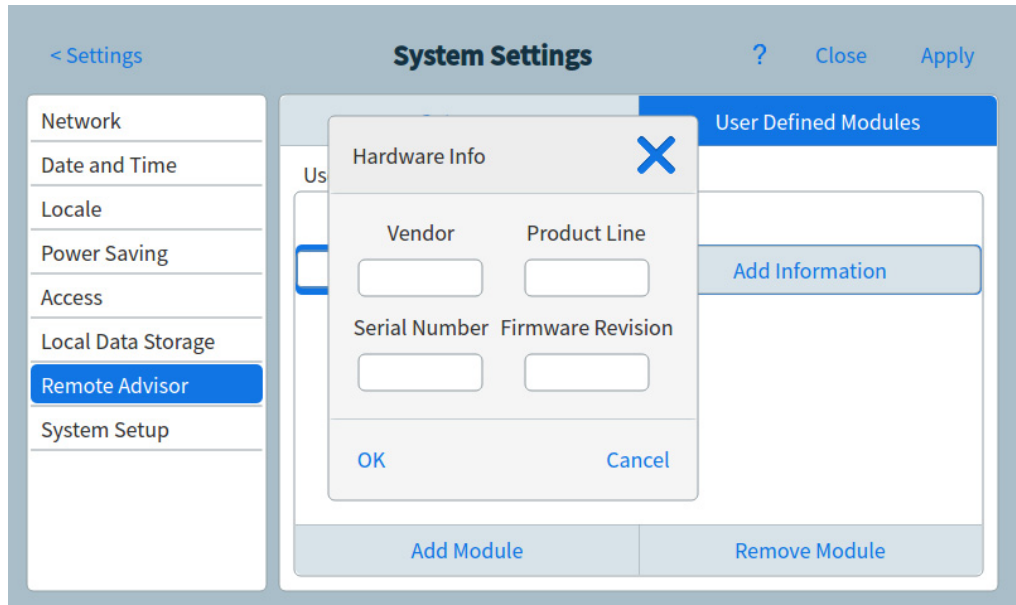

Figure 51 Remote Advisor page - Hardware Info dialog box
- d Press **Add Information**. The Hardware Info dialog box appears. See Figure 51.